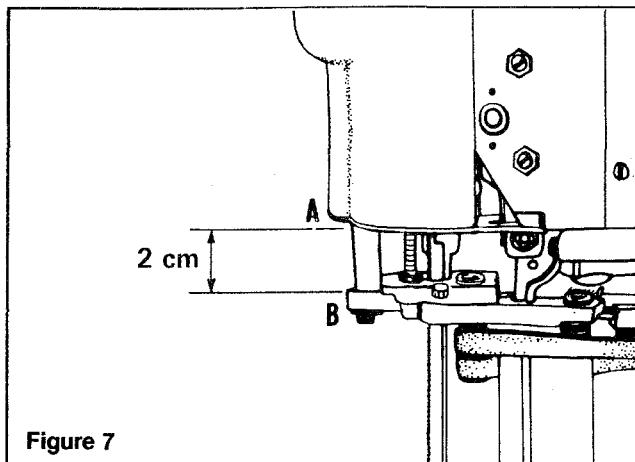

Figure 7
(Figure 7)
- e) Fig. 7: Check clearance between lower Cover "A" and top of Gear Case "B." Maximum distance is $25/32$ " (2 cm) when Brake is properly installed. If distance is greater, reset Brake as Presserfoot Leg A403 will not operate. FlexiBands A386 must not touch Blade A574.